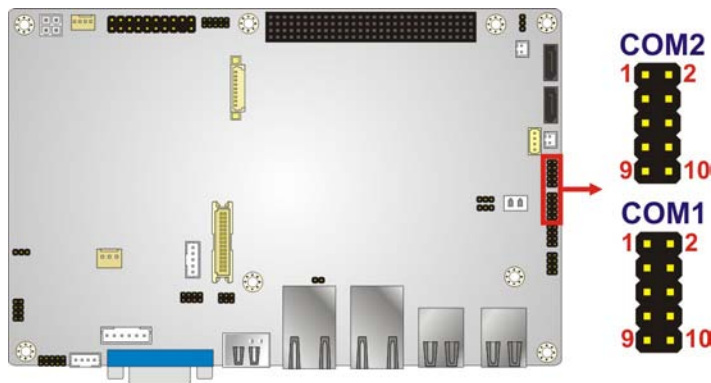

Figure 3-19: COM Connector Pinout Locations
- CN Location: See **Figure 3-19**